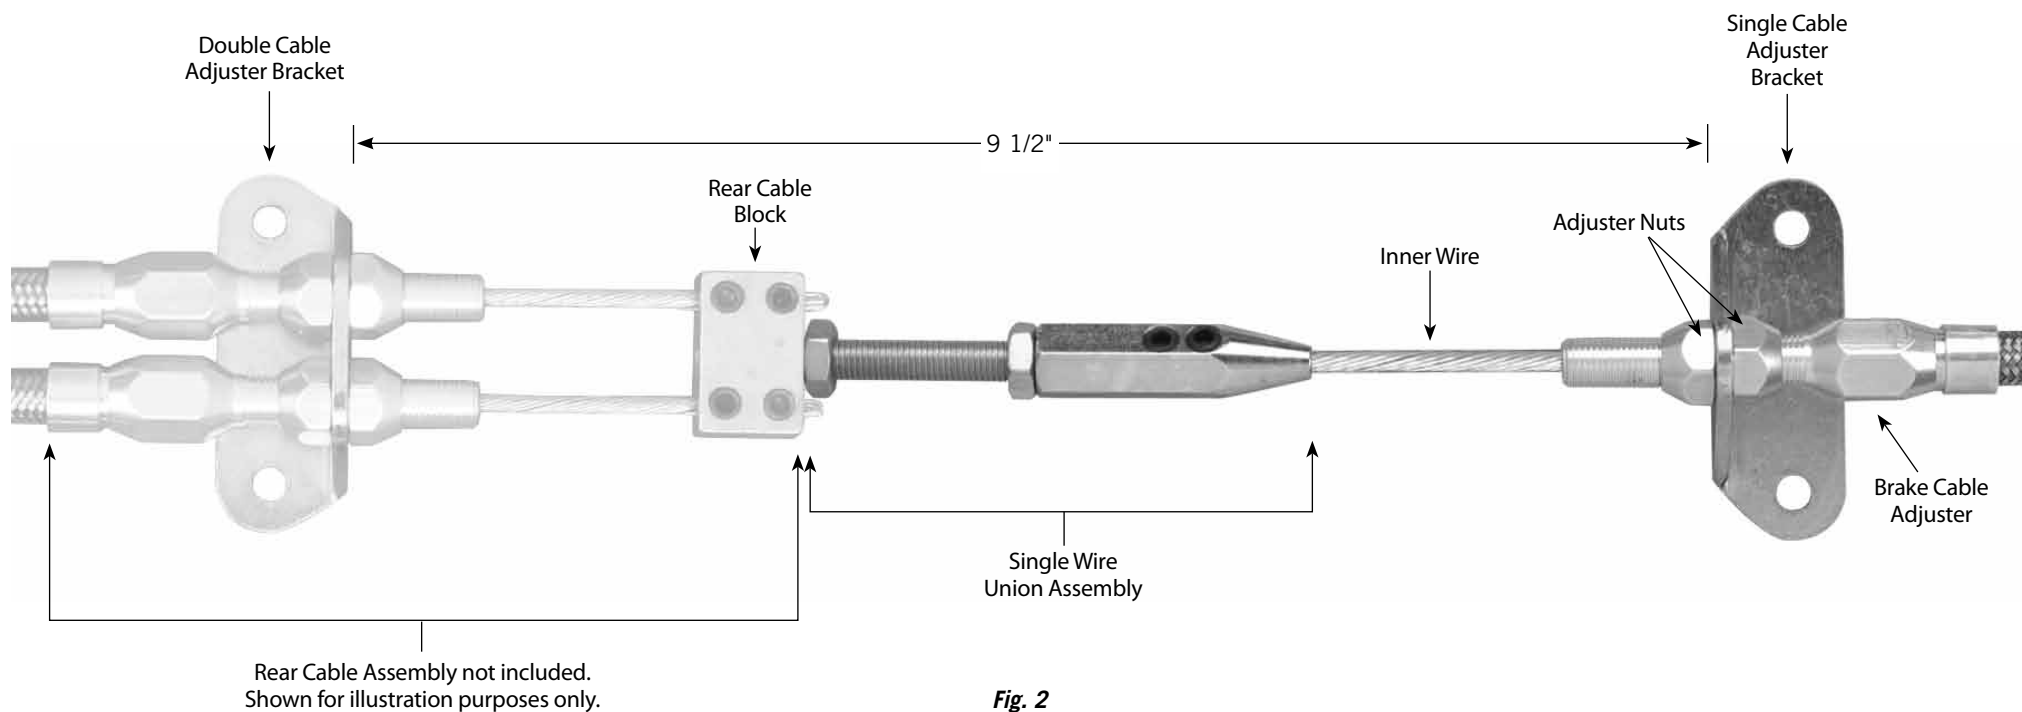

Fig. 2
Step 4: Determine where the single cable adjuster bracket will be mounted. The single cable adjuster bracket must be aligned with the double cable adjuster bracket so that the cables are being pulled in a straight line, not at an angle. If you are using a Lokar Universal Rear Emergency Brake Cable Kit, the single cable adjuster bracket should be mounted approximately 9-1/2" in front of the double cable adjuster bracket as shown in **Fig. 2**.